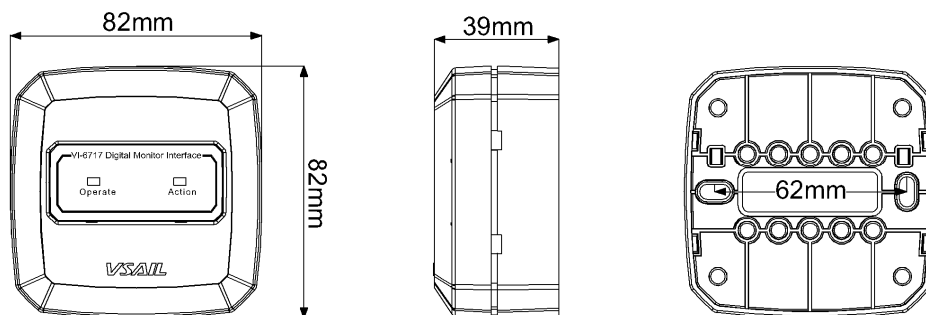

Fig.1
- ◇ **Dimensions: Showing on Fig.1**